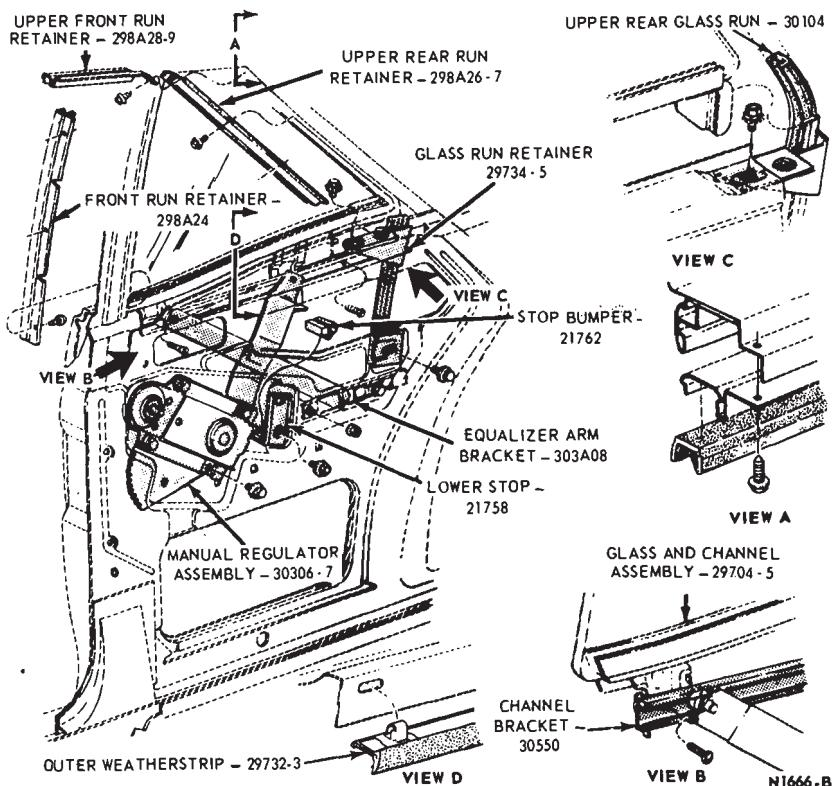

FIG. 1—Quarter Window Mechanism—Falcon—Model 62
2. To obtain proper clearance between the quarter window assembly and the quarter window glass run retainer assembly, operate the window to its full down position, loosen the screw and washer assembly retaining the bottom of the run retainer, and adjust the retainer assembly forward. After adjustment, tighten the screw and washer assembly finger tight (Fig. 1).